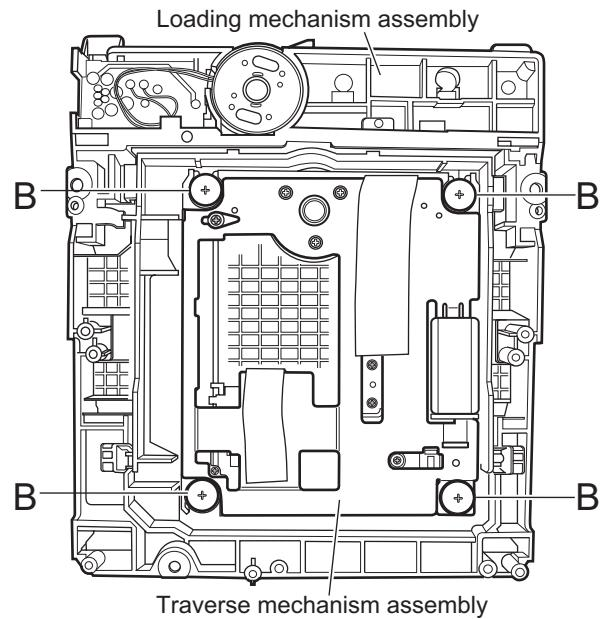

Fig.7
2.2.2 Removing the traverse mechanism assembly (See Figure 7)